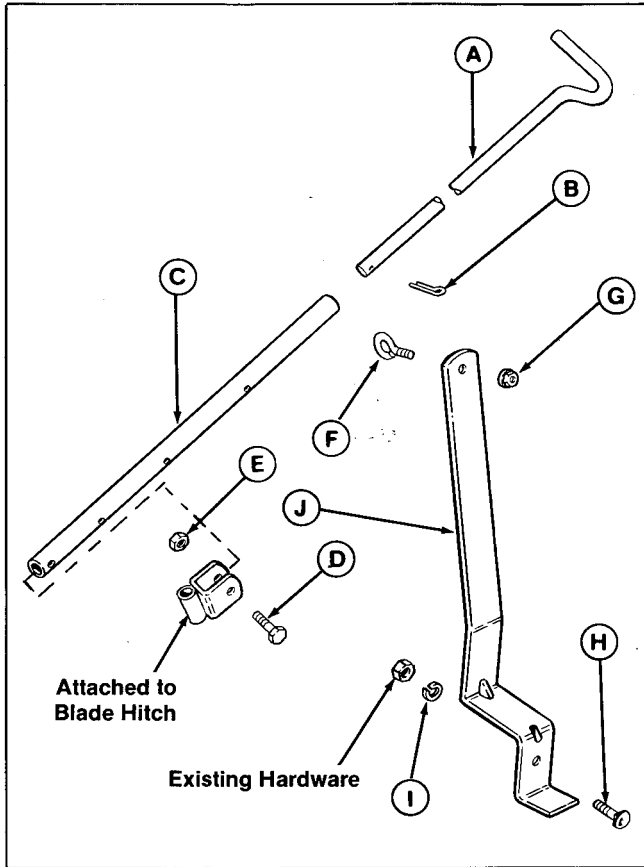
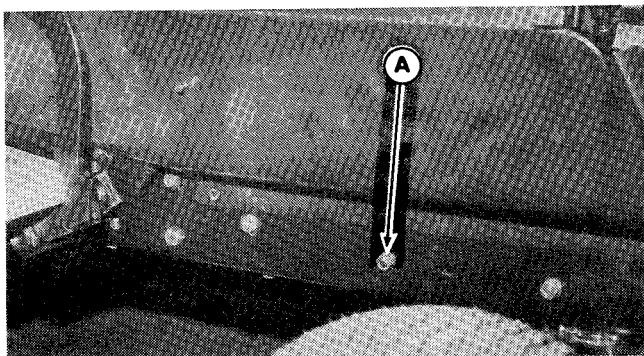

Figure 9
Figure 10
- Attach the support (J, figure 9) to tractor frame as follows. First remove the existing hardware (A, figure 10) at rear engine base plate. Install the support at this location, using new 3/8-16x1-1/4 carriage bolt, lockwasher, and existing nut.
- Insert front end of extension (C, figure 9) into fork and attach with capscrew (D) and nut (E). Slip eyebolt (F) onto handle (A). Connect the handle (A)
To change blade angle, rotate the control handle (A, figure 9) change blade angle, then release the handle. Use the hydraulic lift lever to raise for transport or lower for operation.